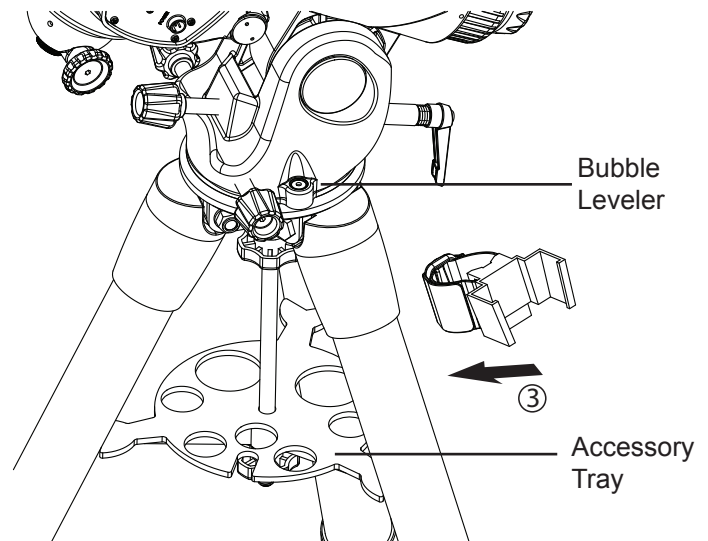

Fig. 1.3b
2. By referring to the bubble leveler on the mount, level the mount by adjusting the length of the tripod legs. (Fig. 1.3b)
3. Tie the hand controller holder on one of the tripod leg at a position between the accessory tray and the tripod head. (Fig. 1.3b)